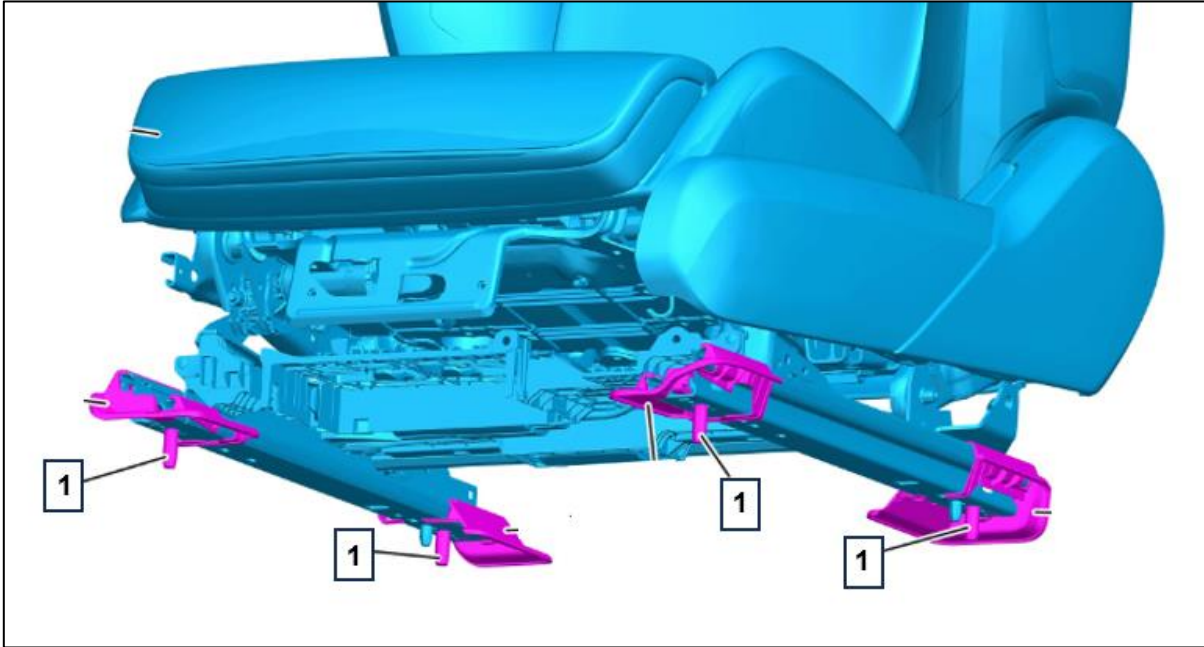

Figure 1
1. Check to see if mounting bolts (**Figure 1, 1**) are present on the front passenger and driver seat rails.
Loosen and retorque bolts (Figure 1, 1) on both front seats to specified tightening torque (50 Nm).